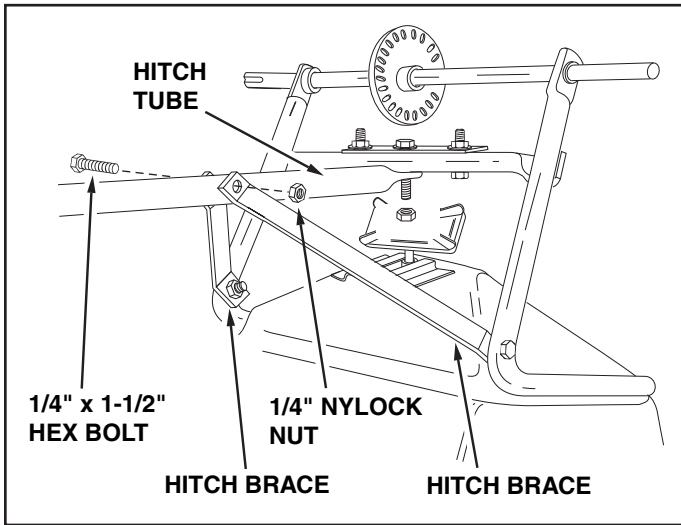

FIGURE 3
- Assemble the two hitch braces to the hitch tube using a 1/4" x 1-1/2" hex bolt and a 1/4" nylock nut. See figure 3. **Do not tighten at this time.**